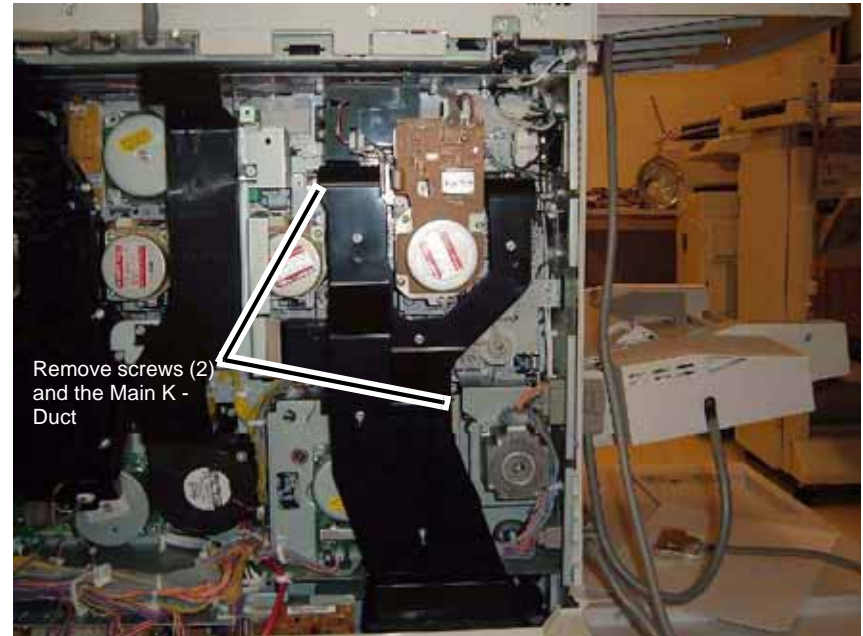

Figure 1 Removing the Main K - Duct
2. Remove the Main K-Duct (Figure 1).